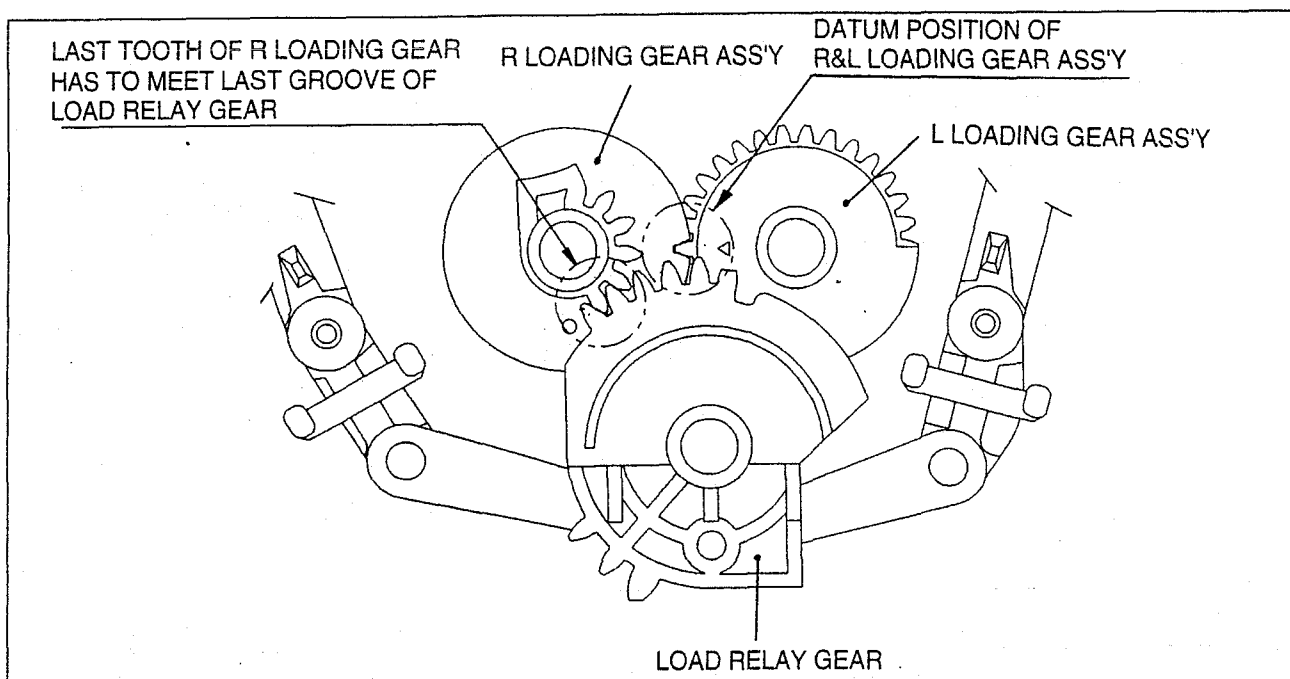

Fig. 4-4 DATUM POSITION OF LOADING GEAR ASS'Y & LOAD RELAY GEAR
- 7) Make Sure that the triangle mark of the L LOADING GEAR ASS'Y meets the ζ -Shaped mark of the R LOADING GEAR ASS'Y in the Eject Mode as shown in Fig. 4-4.
- 8) Make sure that the 1'st tooth of the R LOADING GEAR ASS'Y meets the 1'st groove of the LOADING GEAR ASS'Y in the Eject Mode as shown in Fig. 4-4.